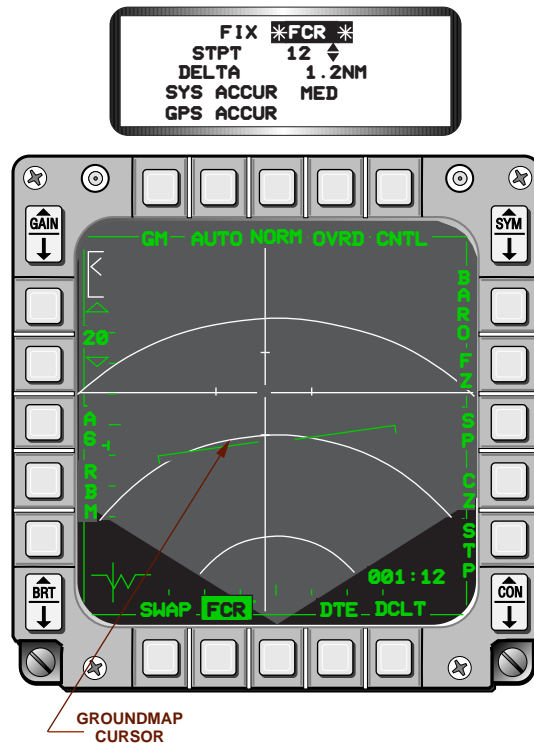

Figure 2-11 FCR Position Update
**FCR Position Update.** An FCR position update is accomplished by using the FCR ground map mode to sight on a known steerpoint or offset aimpoint to update the INS position error. The pilot selects the FIX mode and selects the FCR submode (Figure 2-11). He then enters the steerpoint number with the INC/DEC